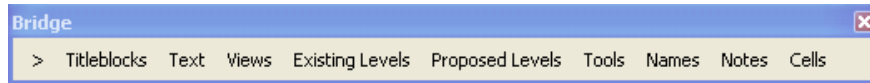

Figure 2.1.5B
- ODOT Menu - In Microstation, select the menu word ODOT and choose Menu from the drop down list. The ODOT Menu will open showing a greater then symbol ">". Click ">" to choose a menu from the drop down list containing Bridge, Construct, Existing, FDPlans, and others. See Figure 2.1.5B.